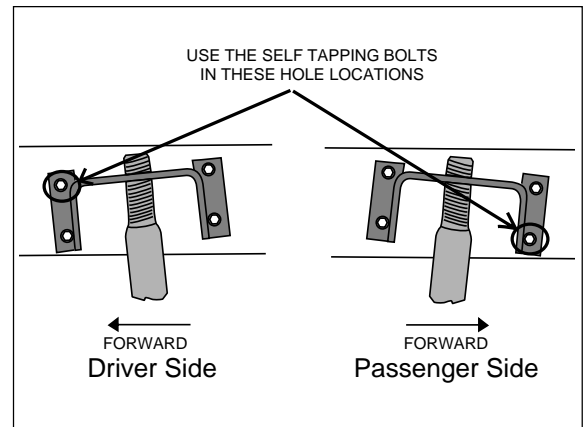

Figure 6
- (1) Centerpunch and drill a $\frac{3}{8}$ " hole through the *forward upper* mounting hole. Insert the $\frac{3}{8}$ " x 4" frame bolt/flat washers/locknut and leave loose. Note: On exhaust side of vehicle it may be necessary to move or trim stock heat shield to gain access to mounting bolts.
- (2) Next centerpunch and drill through the *rear upper* mounting hole. Do not insert the bolt.
- (3) The installation tool can now be removed by removing the upper nylon nut, loosening and removing the tool from the bottom bolt (leave in place), and slightly rotating the upper bracket to give you enough room to completely remove the tool.
- (4) Rotate the upper bracket back to the original location and install the frame bolt, flat washer, and lock nut through the second hole that was drilled. Now tighten both of the installed fasteners to 20 ft-lbs. Centerpunch and drill a third $\frac{3}{8}$ " hole through the *rear lower* mounting hole and insert $\frac{3}{8}$ "-16 x 4" bolt, flat washers and lock nut (Tighten to 20 ft-lbs).
- (5) As shown in Figure 6, a self tapping frame bolt is required in the *forward lower* mounting hole. Drill a $\frac{5}{16}$ " hole, (no larger) insert and tighten the self tapper (15 ft-lbs). Do not overtighten.
- (1) Centerpunch and drill a $\frac{3}{8}$ " hole through the *forward lower* mounting hole. Insert the $\frac{3}{8}$ " x 4" frame bolt/flat washers/locknut and leave loose.
- (2) Next centerpunch and drill through the *rear lower* mounting hole. Do not insert the bolt.
- (3) The installation tool can now be taken out by removing the upper pal nut, loosening and removing the tool from the bottom bolt (leave in place), and slightly rotating the upper bracket to give you enough room to completely remove the tool.
- (4) Rotate the upper bracket back to the original location and install the frame bolt, flat washer, and lock nut through the second hole you drilled. Now tighten both of the installed fasteners to 20 ft-lbs. Centerpunch and drill a third $\frac{3}{8}$ " hole through the *rear upper* mounting hole and insert $\frac{3}{8}$ "-16 x 4" bolt, flat washers and lock nut (Tighten to 20 ft-lbs).
- (5) As shown in Figure 6, a self tapping frame bolt is required in the *forward upper* mounting hole. Drill a $\frac{5}{16}$ " hole, no larger, and insert and tighten the self tapper (15 ft-lbs). *Do not overtighten.*